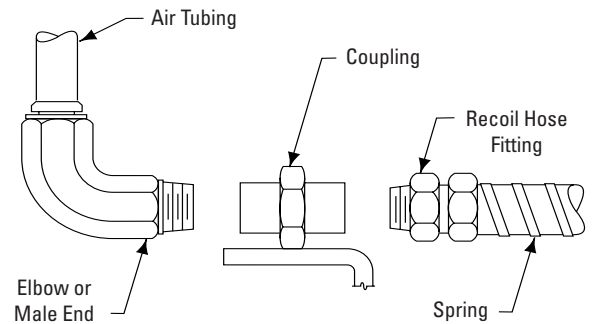
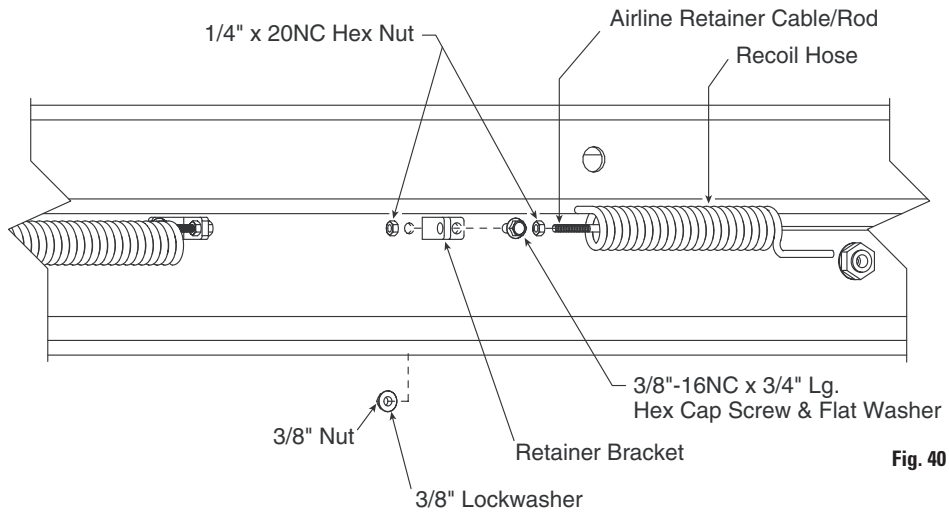

Fig. 38
Fig. 40
- A. Attach retainer brackets for the rear recoil hose with 3/8"-16NC x 3/4" Lg. hex cap screw, flat washer, lock washer and nut, Fig. 40.
- B. Insert retainer cable through coils of recoil hose, Fig. 40. Run a 1/4"-20NC hex nut down onto each end of retainer cable. Insert each end of cable into retainer brackets. Secure each cable end with another 1/4"-20NC hex nut. Tighten jam nuts, Fig. 40.
- A. Insert retainer cable through coils of recoil hose, Fig. 40. Connect one end of recoil hose to coupling welded on rolling jack, Fig. 38 and 39.
- C. Connect elbow end of rolling jack tubing assembly to air pump, and male end to the coupling, Fig. 38 and 39.